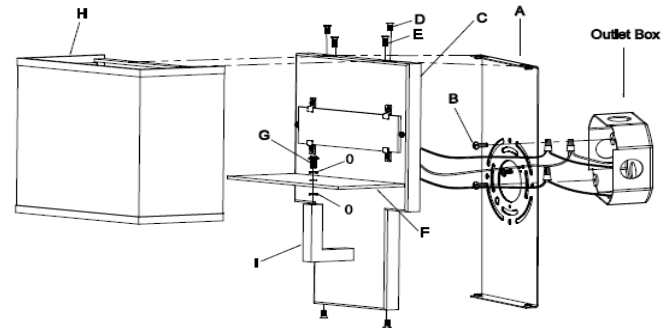

Fig.2
### CONNECTING THE WIRES (FIG. 2)
4. At this point, connect the electrical wires as shown in Fig. 2, making sure that all wire connectors are secured. If your outlet has a ground wire (green or bare copper), connect the fixture's ground wire to it. Otherwise, connect the fixture ground wire directly to the mounting plate (A) using the green screw provided. After wires are connected, tuck them carefully inside the junction box.
5. Align fixture's back plate (C) onto mounting back plate (A) and secure with screws (D) (Size: 'M4\*8MM).